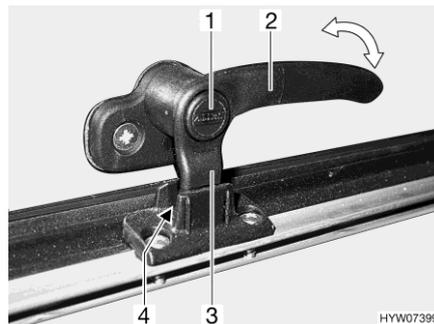
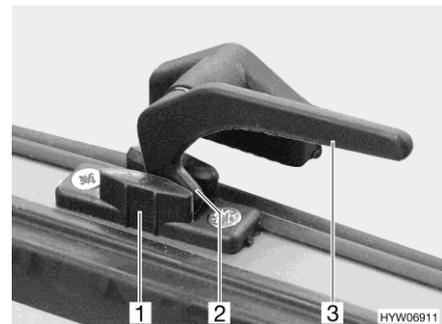

Fig. 116 Catch lever with safety knob in "continuous ventilation" position
Fig. 117 Catch lever in "continuous ventilation" position
- "Continuous ventilation" (Fig. 116 and Fig. 117)
- Press and hold the security button (Fig. 116,1), if present.
- Turn the catch lever (Fig. 116,2 or Fig. 117,3) a quarter turn towards the centre of the window.
- Return the catch lever to its initial position. Move the locking catch (Fig. 116,3 or Fig. 117,2) on the catch lever into the recess of the window catch (Fig. 116,4 or Fig. 117,1).